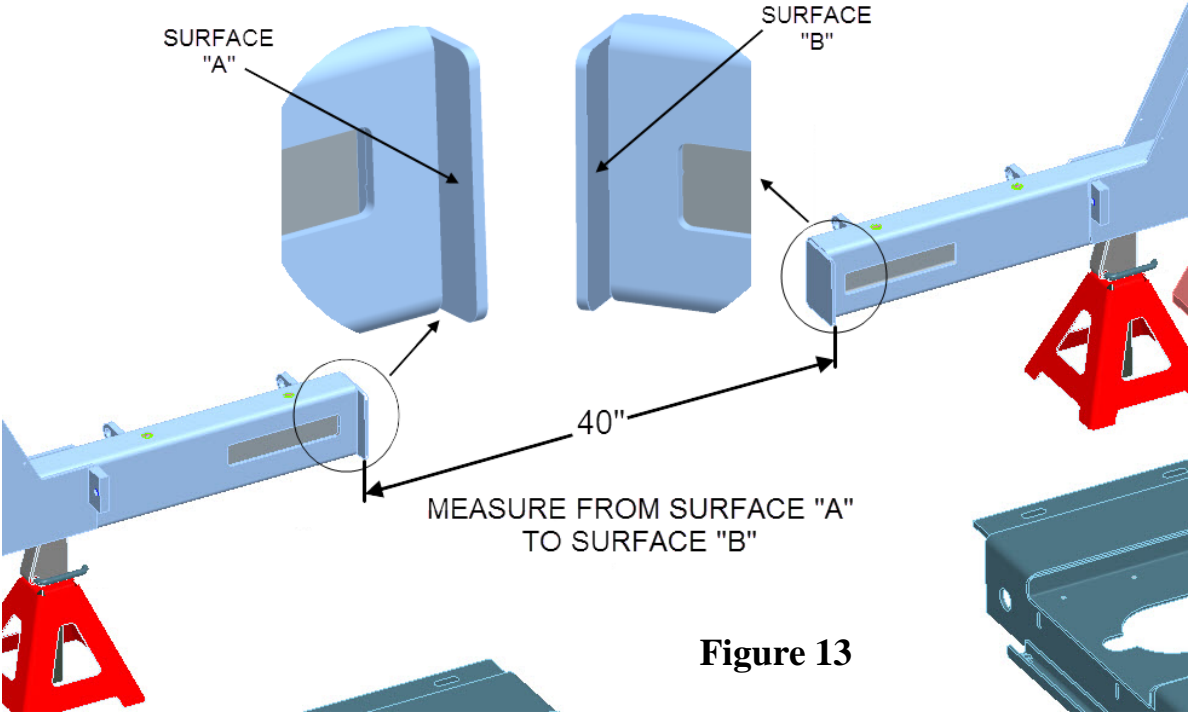

Figure 13
- Level columns so that they are plumb to each other, making sure the distance between deck contact surfaces of the runway stoppers (surfaces “A” and “B”) is 40” (**Fig.13**).